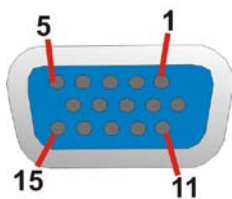

Figure 3-25: VGA Connector
- CN Pinouts: See **Figure 3-25** and **Table 3-25**